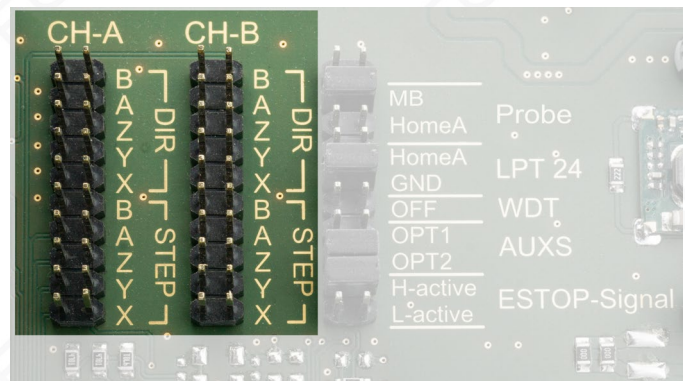

Fig. 35: The jumpers on the motherboard
- If necessary, first remove the existing other modules so that you have unhindered access to the jumpers on the C3 Bob (Fig. 35).